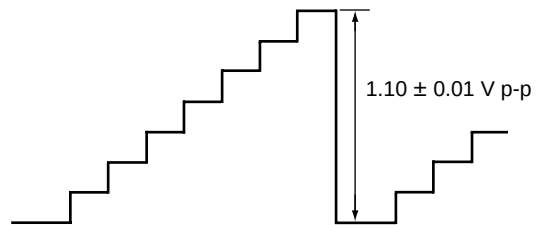

Fig. 3-3
4. Observe the TP503 (B IN) using an oscilloscope, and adjust the RGB A.GAIN level so that the signal level will be $1.10 \text{ V} \pm 0.01 \text{ V p-p}$. (Fig. 3-3)